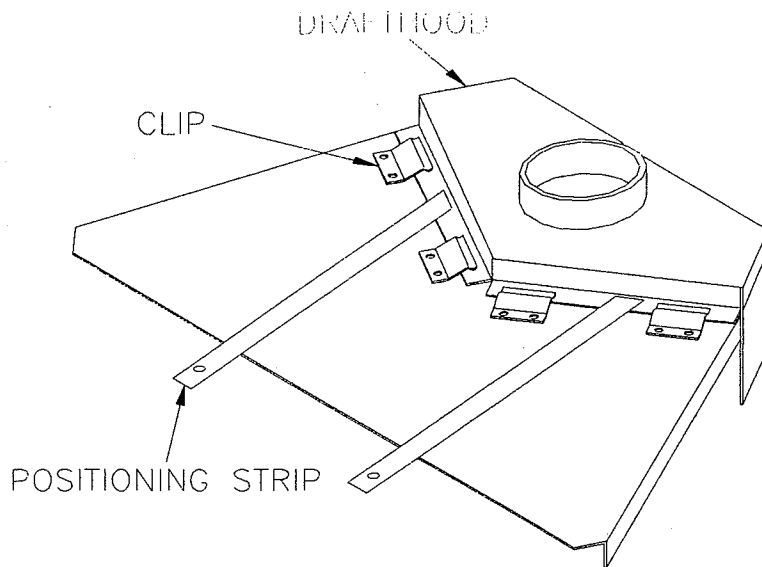

Figure 12
7. Push the insert back until the front firebox flanges are 1/4" (6mm) in front of the masonry or factory built fireplace facing. As the heater is pushed back, pull the draft hood positioning strips firmly toward the heater front until the draft hood flange is secured under the top clips of the heater (Figure 12).